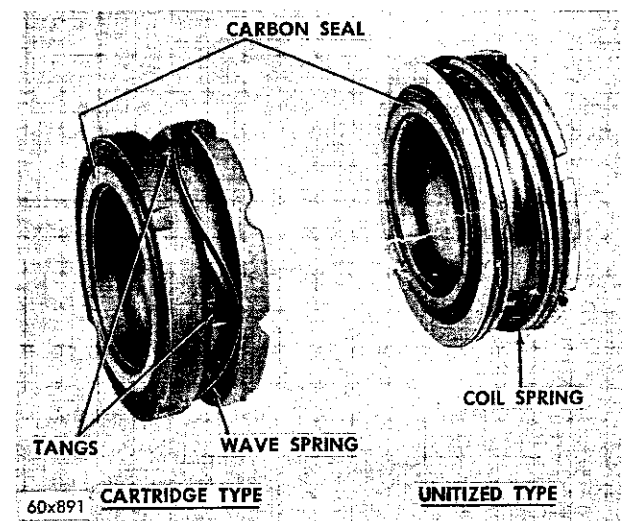
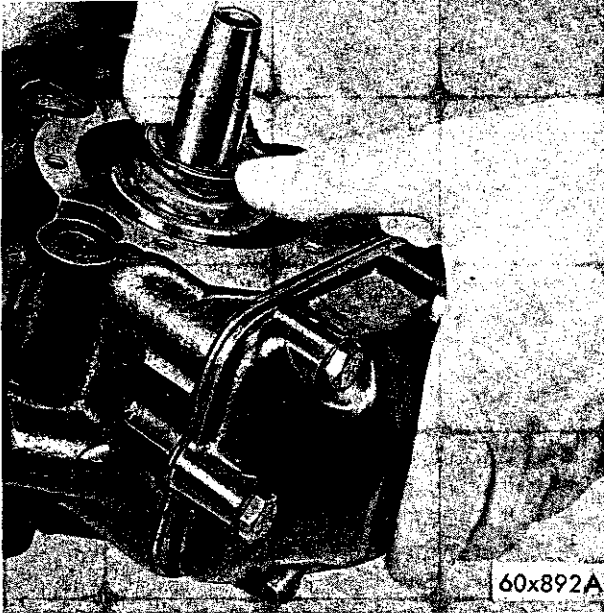

Fig. 44—Gas Seal Identification
Fig. 45—Inspect the Indexing of Tangs
The crankshaft gas seal replacement package consists of the crankshaft gas seal assembly and the crankshaft bearing housing seal face plate. Two types of crankshaft seals are supplied for service, as shown in Fig. 44. If the replacement package contains the cartridge-type seal, follow the entire installation
(1) Before installing the cartridge-type gas seal assembly, inspect the assembly to make sure that tangs index in slots of mating part. This will insure the proper spring action. The carbon seal must be assembled as shown in Fig. 44.
(2) Hold the seal firmly on the outside edge to prevent it from rotating out of the index slots.
(3) Lubricate the crankshaft with refrigerant oil. Slide the seal on the crankshaft with the smooth (carbon seal) surface up, or toward the front of the compressor.
(4) When the seal bottoms against the crankshaft bearing, inspect the indexing of tangs again by pressing down with thumbs to see if it has the proper spring action. (Refer to Fig. 45).
(5) Lubricate and install the crankshaft bearing housing seal face plate with the smooth (micro-finish) side up. Use a sleeve with the minimum inside diameter of $1\frac{3}{8}$ inches to avoid damaging the micro-finish sealing surface of the face plate. Tap sleeve lightly until the seal face is fully seated in the housing.
(6) Install the bearing housing oil seal, using plenty of refrigerant oil.
(7) Install the housing, making sure that it is in proper alignment with the screw holes. The gas seal assembly may be damaged if the bearing housing is